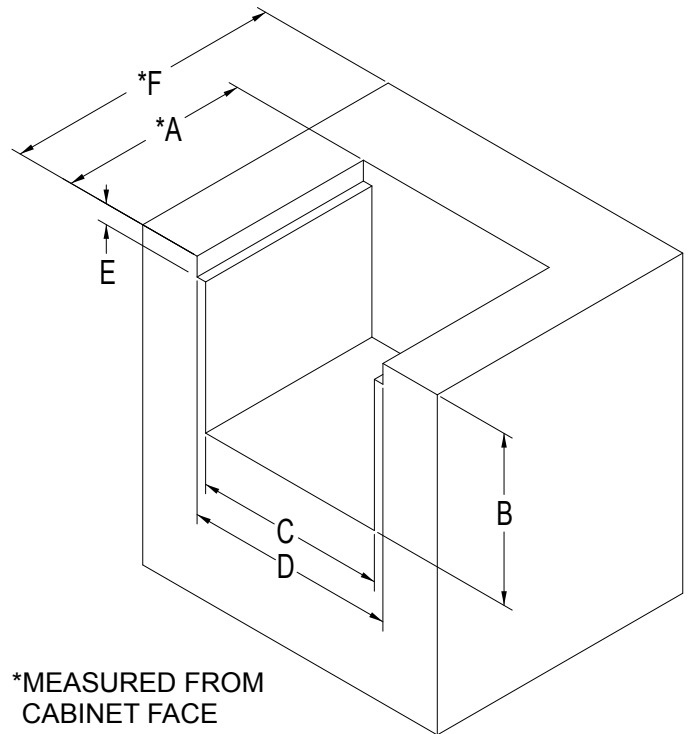

Figure 1
1. Ensure that you have the available space shown in Figure 1 for installation. Allowance for clearance to combustibles, per the range or slide-in installation manual, must also be given. If you do not have this much space available, this accessory will not fit. Do not proceed any further.